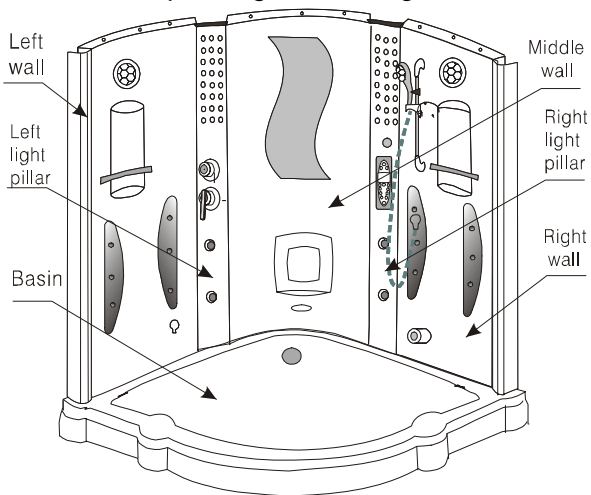

Fig.3
3) Move the basin to the scheduled position, level it with the level gauge. The level gauge should be put on two each other vertical positions at least, make the air of the level gauge in the center through regulating the adjustable bolt under the basin. After leveling, screw the adjustable nut tightly. Move the basin that has been leveled to the place about 400mm apart to the wall. Put the wall assembly on the basin; join them with M6X25 hexagonal bolts at the corresponding holes. Fig.3